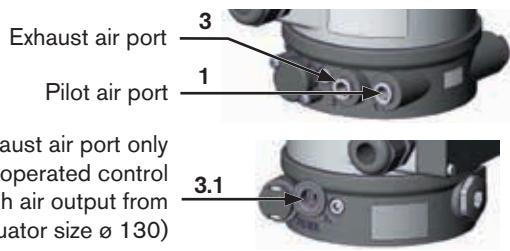

Fig. 8: Pneumatic connection
- Connect the control medium to the pilot air port ("Fig. 8": 1)
- Fit the exhaust line or a silencer to the exhaust air port ("Fig. 8": 3) and, if available, to the additional exhaust air port ("Fig. 8": 3.1).